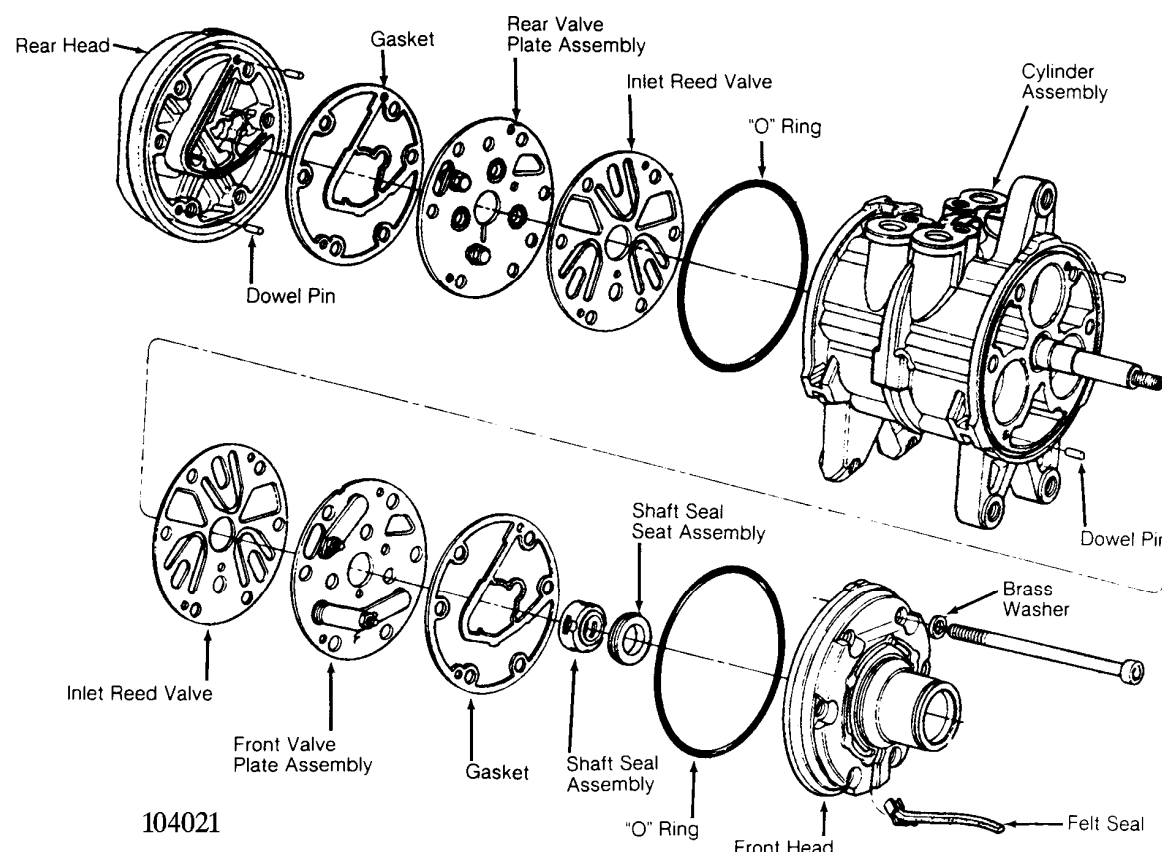

Fig. 1: Exploded View of Chrysler, Ford & Nippondenso 6-Cyl Compressors
3. Using Key Remover (T81P-19623-NH), remove key from compressor shaft. Remove front head-to-compressor retaining bolts. Remove front head. Front valve plate assembly, inlet reed valve and shaft seal assembly come off with front head. See Fig. 1.